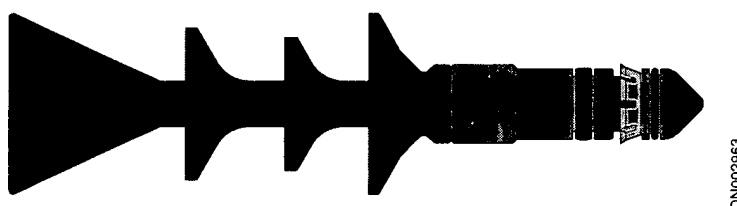

Figure 4.14.1.A—SSR plug system releasing dart
**Table 4.14.1.A** provides dimensional data for the standard drillpipe releasing dart (**Figure 4.14.1.A**). When an SSR plug arrives on location, the packaged drillpipe plug should be measured to verify that the correct drillpipe releasing dart has been furnished with the plug set. All drillpipe run in the hole during the hookup should be “rabbited” with a steel or brass bar to verify that the rabbit will pass through the minimum ID restriction noted in Table 4.14.1.A.